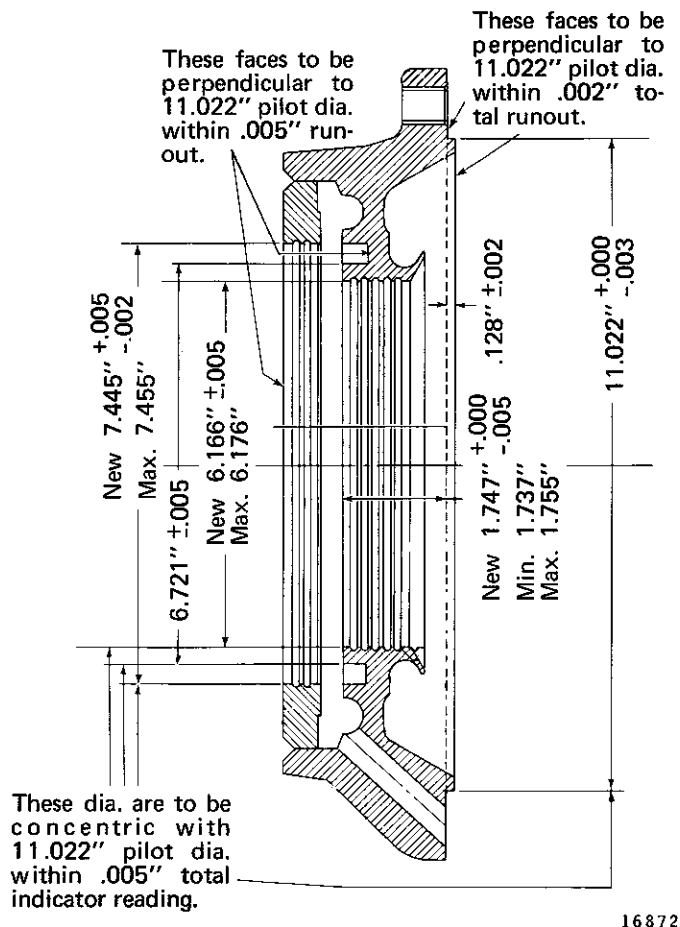

Fig. 6 — P.E. Bearing Cap
1. Check the inner labyrinth (small diameter) lands for wear and broken lands, see Fig. 6. This diameter should be within 6.161" to 6.176" with .005" maximum taper acceptable. On "E" bearing caps the diameter should be between 7.666" to 7.676" with .005" maximum taper acceptable.